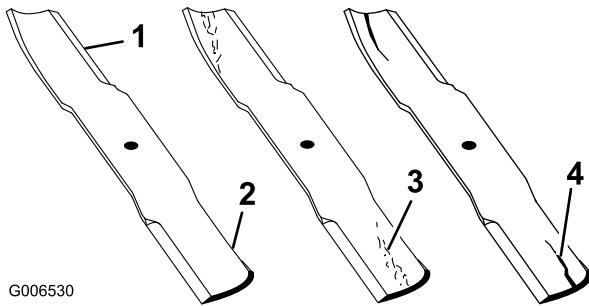

Figure 79
1. Inspect the cutting edges (Figure 79).
2. Inspect the blades, especially the curved area (Figure 79).
If you notice any damage, wear, or a slot forming in this area (Figure 79), immediately install a new blade.